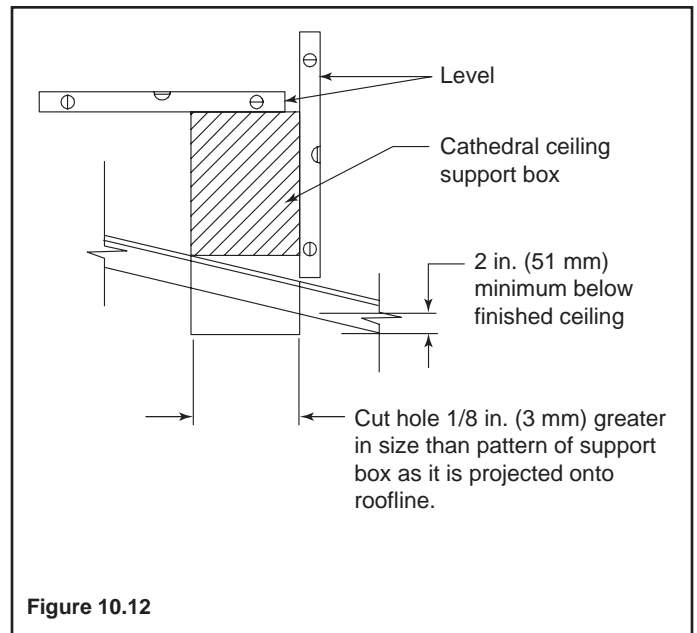

Figure 10.12
- Lower the support box through the hole in the roof until its bottom is at least 2 in. (51 mm) below the ceiling (Figure 10.12).